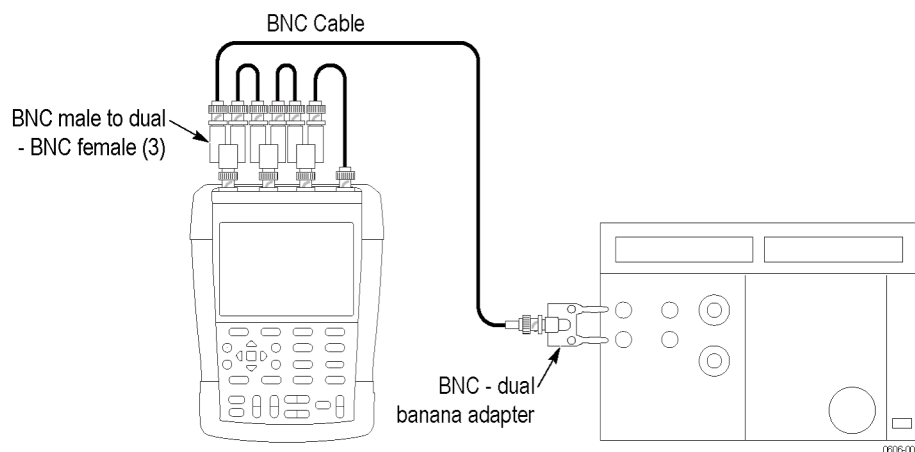

Figure 13: Input to 5500A normal output test setup
1. Connect the generator to the oscilloscope as shown. (See Figure 13.)